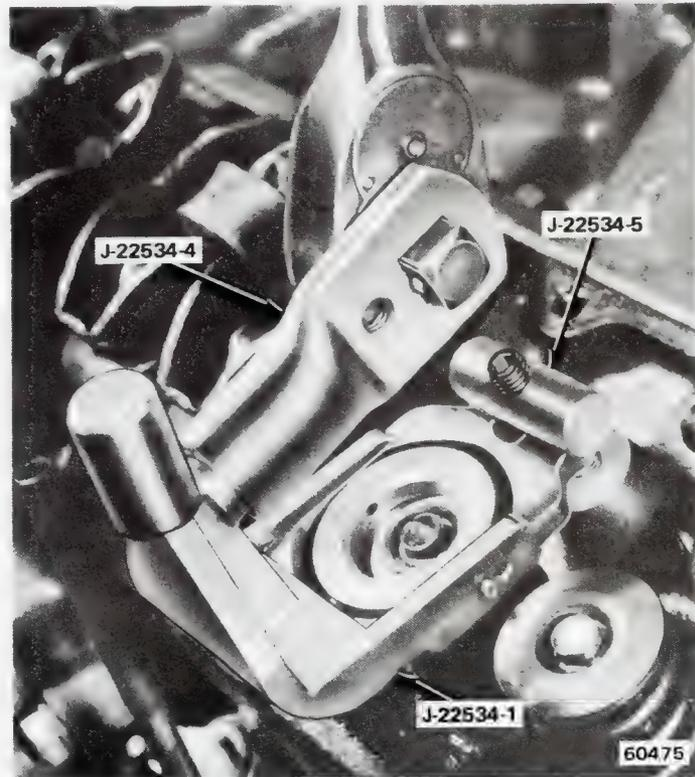

Fig. 1B-133 Valve Spring Removal
- (6) Connect air hose to adapter and maintain at least 90 psi in cylinder to hold valves against their seats.
- (7) Use Valve Spring Remover and Installer Tools J-22534-1, J-22534-4, and J-22534-5 to compress valve spring. Remove valve locks (fig. 1B-133).